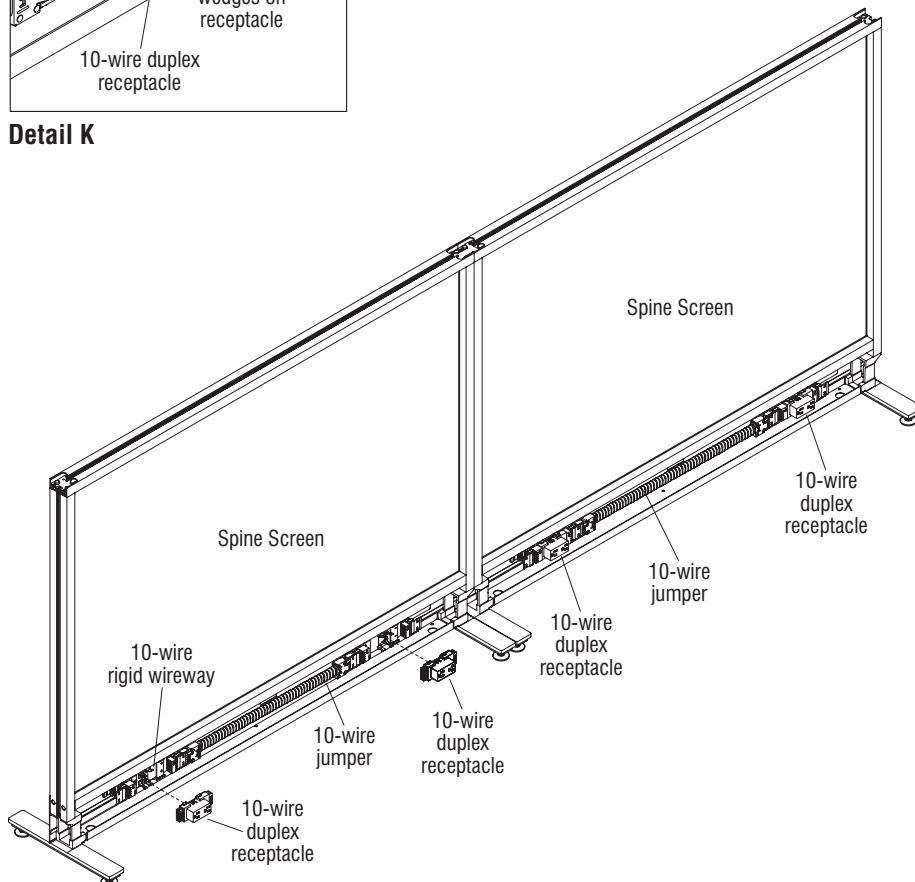

Figure 5
1. Per the space-planning layout, determine the correct location for each numbered receptacle in the system (Figure 5).
2. Position the duplex receptacle on either end of the 10-wire rigid wireway as shown, matching the arrow at the "N" symbol to the same orientation on both the receptacle and the wireway (Figure 5).